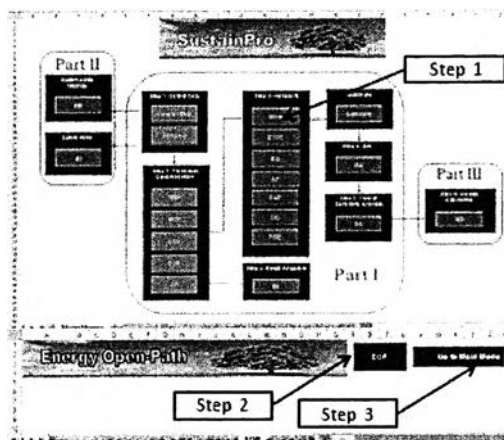

Figure B.16: Steps to perform sustainability analysis (Continued)
Step 1: Click “MVA” button in “MVA” page (Figure B.16).